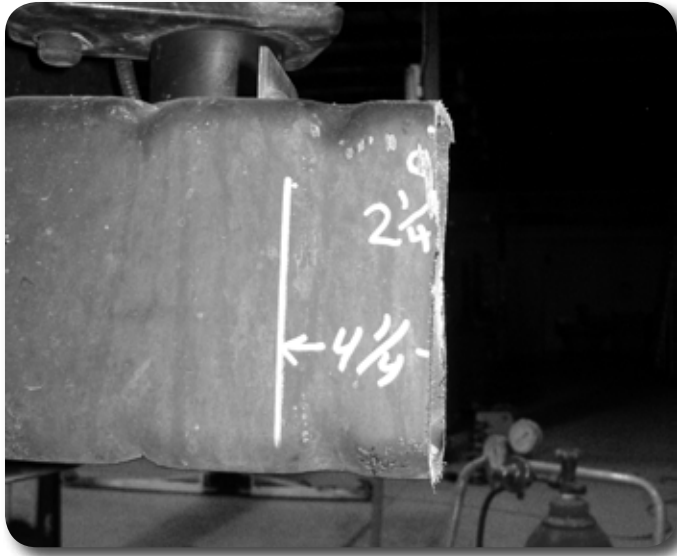

Figure 6
22. With the front bumper mounts removed, clean any burrs from the cut edge. Also check the vertical edges of the cut to be sure none of the bulged section of the frame remains. This would hinder this installation of the new brackets. If a trace of the bulge remains, grind it down flush with the rest of the frame rail. Paint any bare metal. **Figure 6**